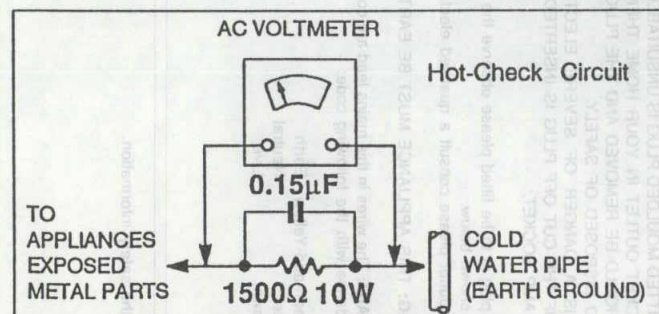

Figure 1
(See Figure 1)
2. Connect a 1.5k ohm, 10 watts resistor, in parallel with a 0.15 μ F capacitor, between each exposed metallic part on the set and a good earth ground such as a water pipe, as shown in Figure 1.